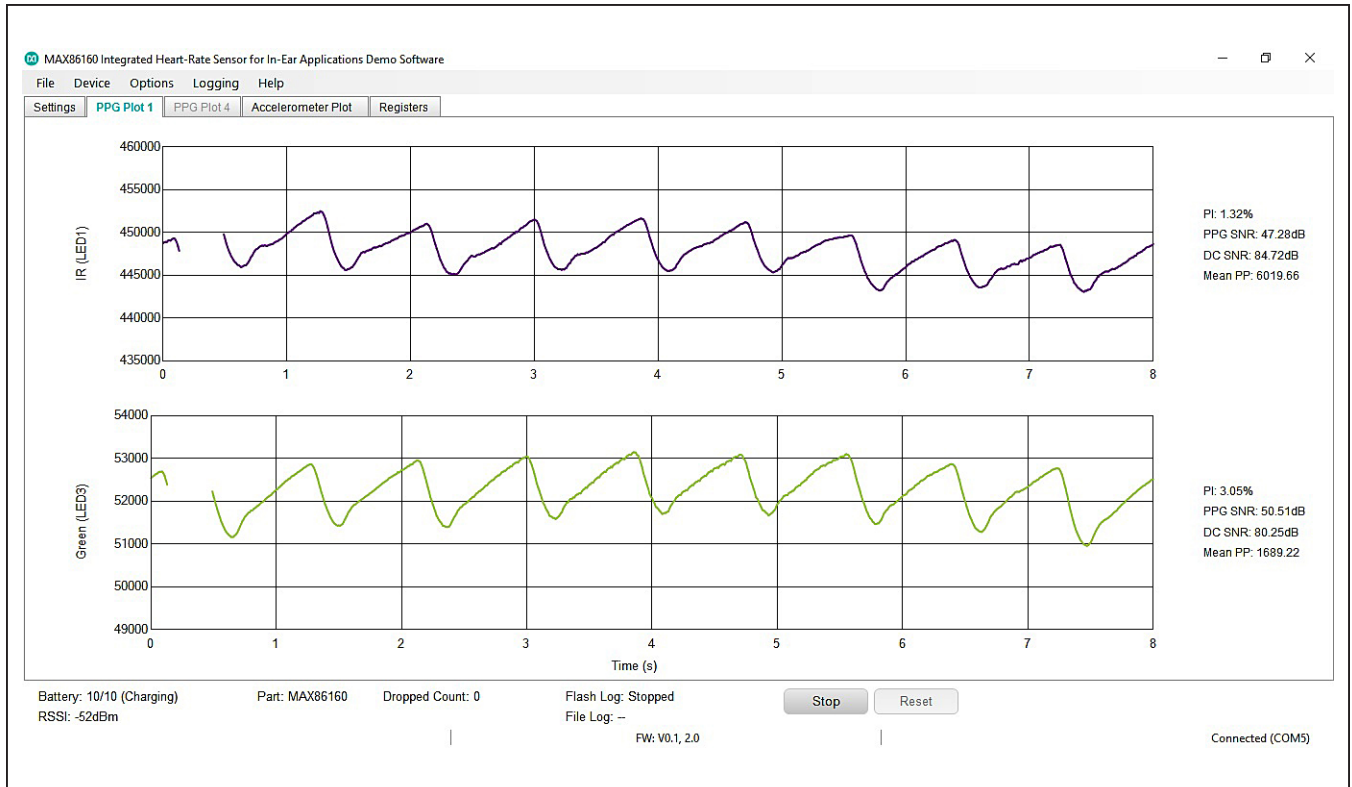
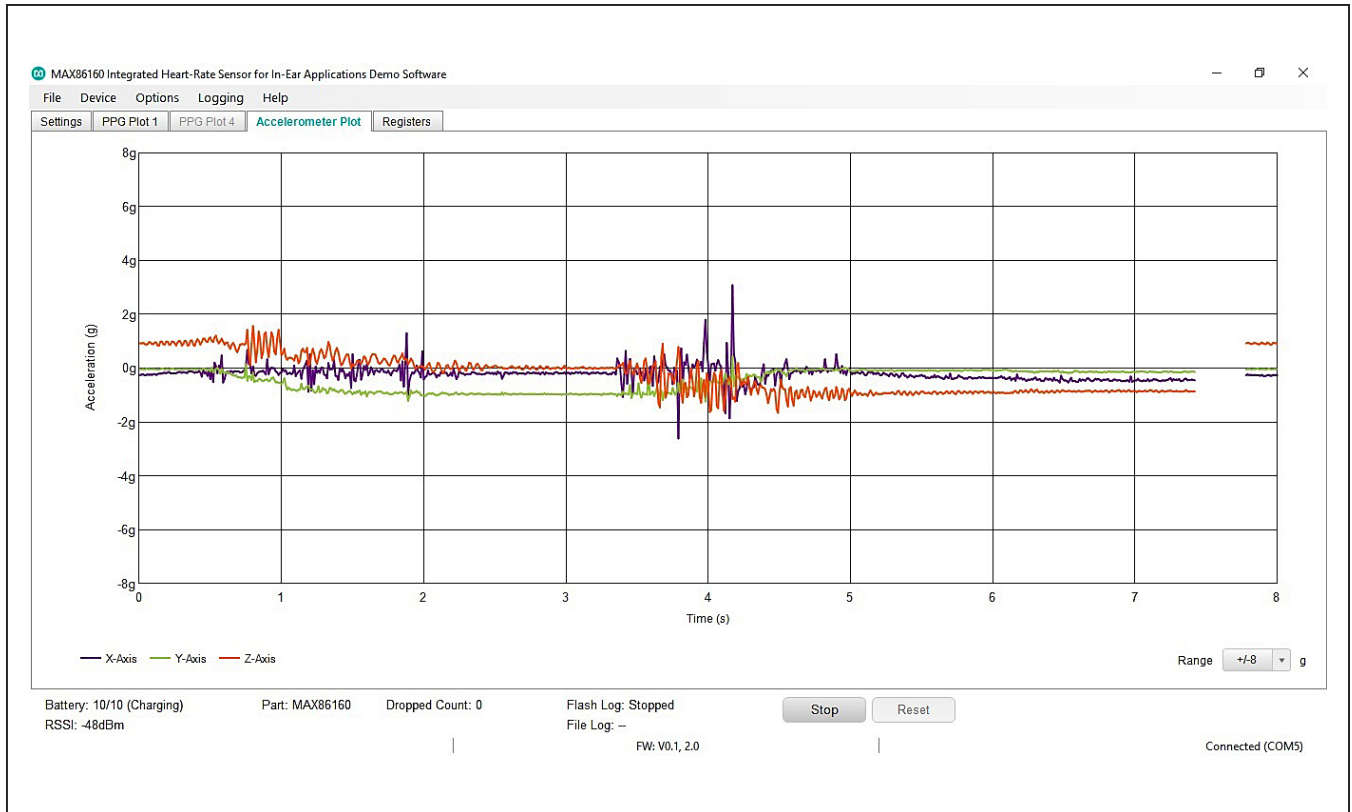

Figure 12. MAX86160 EVSYS GUI (PPG Plots)
Figure 13. MAX86160 EVSYS GUI (Accelerometer Plots)
- 10) When running, the LEDs on the Micro PCB should illuminate and the plots on the GUI should stream with data as shown in Figure 12 and Figure 13.